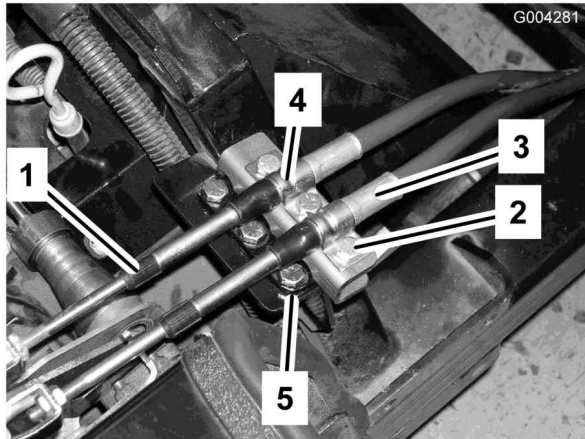

Figure 27
5. Install the shift selector cables using all existing fasteners and clamps to the new bracket (Figure 27).